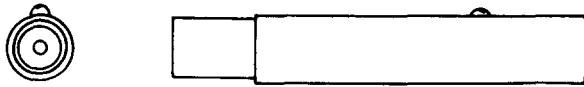

Fig. 3—503-Type Jack
2.03 503A, B, and C: These are coaxial-type jacks. (Fig. 3).